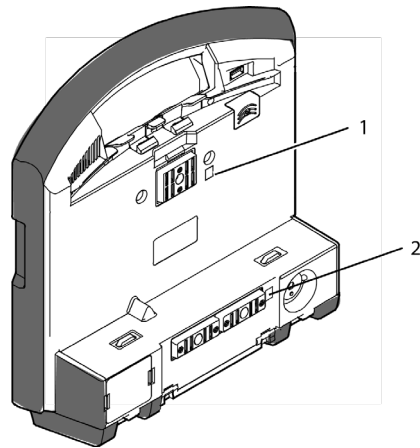

Fig. 10-4 Monitoring unit, infrared interfaces
4. Wipe the infrared interfaces of the monitoring unit with a cloth (see Fig. 10-4, item 1 and item 2).